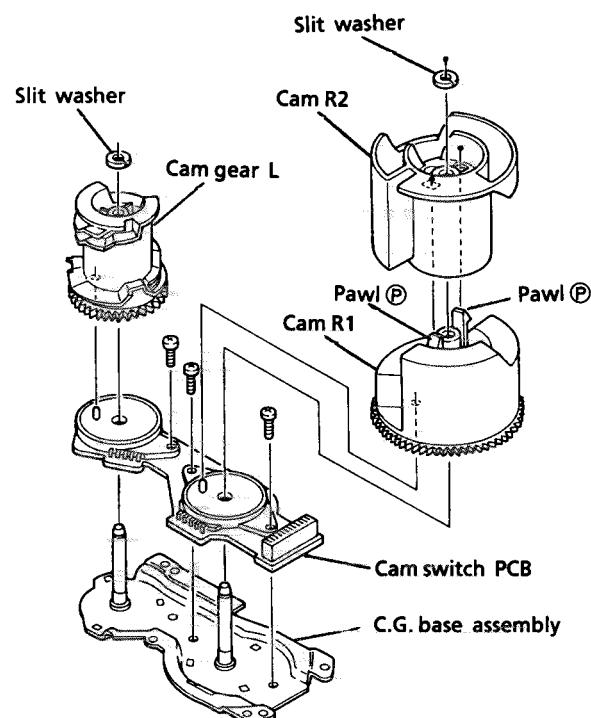

Fig. 41
(See Fig. 41.)
(27) Removal of C.G base ass'y
Remove 3 screws ④ securing the C.G. base ass'y. (See Fig. 41 and 42.)